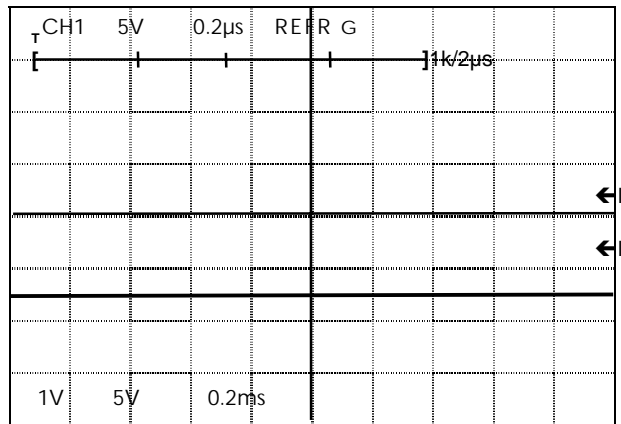
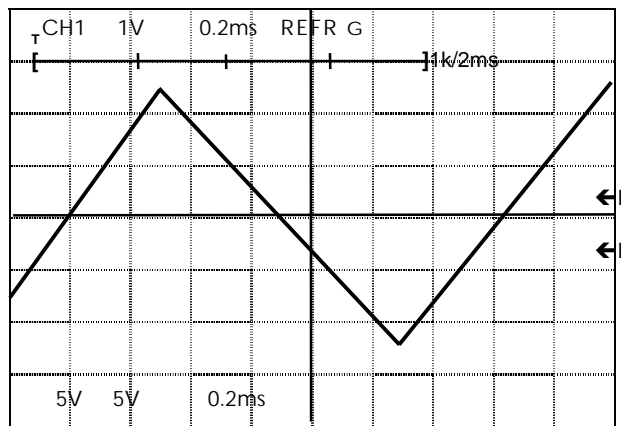

Figure 19: Before acquisition
Figure 20: After acquisition
Figures 19 and 20 can be obtained by carrying out the following sequence:
3. Set current acquisition values as follows (figure 19) :
4. Run acquisition by pressing on the RUN/STOP key (46).
6. Set the current acquisition values as follows (figure 20) :